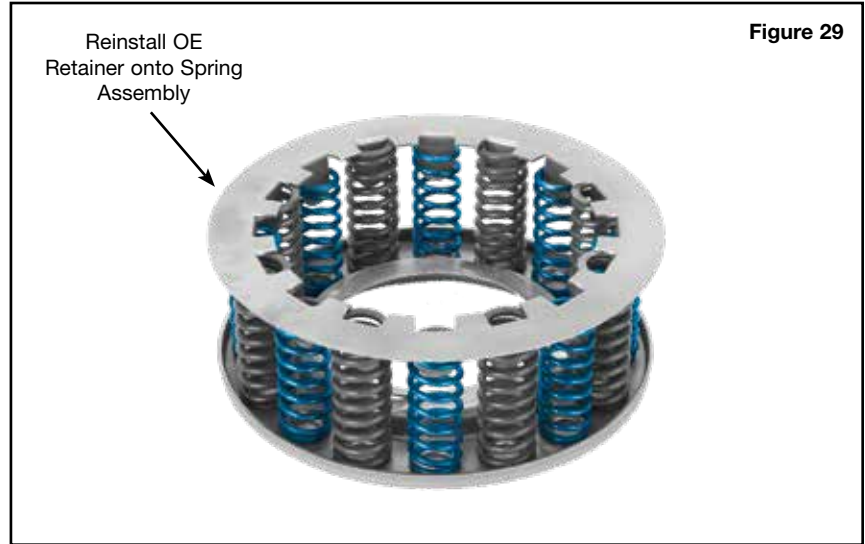

Figure 29
- b. Reinstall OE retainer onto spring assembly (**Figure 29**)